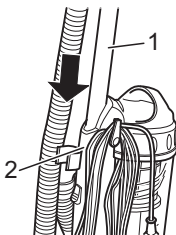

Fig.3
2. Push the telescopic tube (Fig. 3/1) into the telescopic tube mount (Fig. 3/2), until it audibly clicks into place.